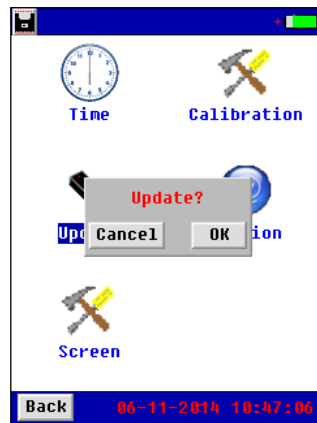

Fig 3.4.3
1. Save the new software in the root directory of USB drive, connect the USB drive with main unit, click "**Update**" under "**System**" and select **OK** (see Fig 3.4.3) You will see the process for update on screen. After update is done, screen will automatically to the starting screen.